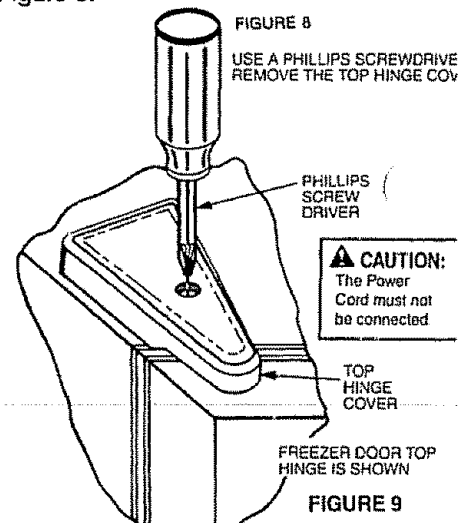

FIGURE 9
6. Remove the top hinge covers. See Figure 9.